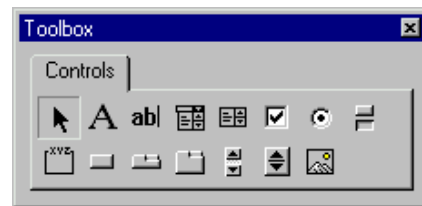

Figure 34-12 The **Toolbox** for creating the User Interface Form
5. Click the form after insertion to make it the active window. To insert a control such as a command button onto the form, choose the corresponding button on the toolbox. The symbol shown as the second button from the left in the second row of the toolbox in Figure 34-12 inserts the command button control.